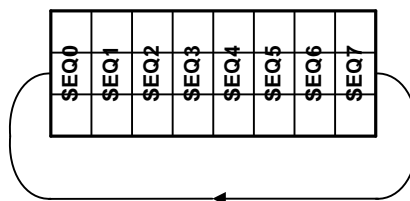

Figure 40. State Machine Generating Fixed Pattern Sequence
For flexibility, the user can determine a fixed pattern with a depth of 8 patterns as shown in Figure 40. The user can fill these 8 sequences (SEQ0 – SEQ7) with an arbitrary pattern (PATTERN (000) – PATTERN (111)). See Register Map address 08h through 0Bh below for the details. The default register value for all SEQ0 through SEQ7 sequences is 010, which generates alternating 0xFF and 0x00 at the ADC output as shown in Figure 41. Note that since the ADC outputs odd bits on the falling edge of the OUTCLK and even bits on the rising edge, the resulting 16-bit output codes are 0xAAAA.